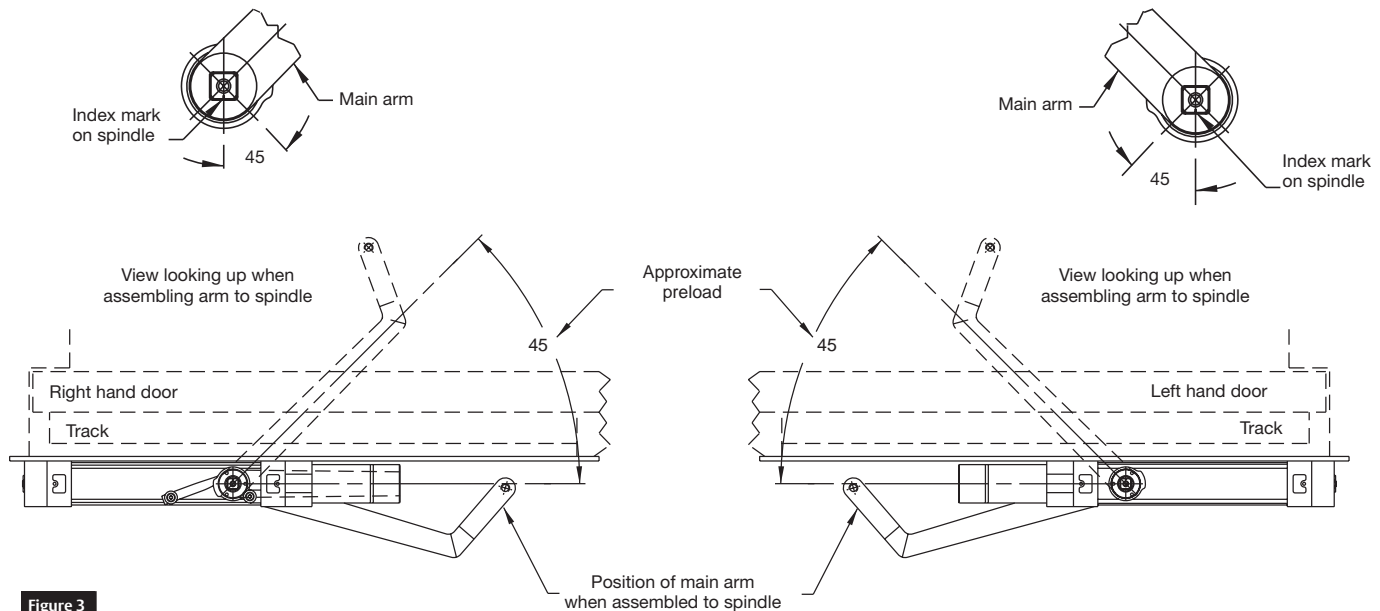

Figure 3
1. With appropriate size wrench, rotate closer top spindle parallel to door. (Figure 3)